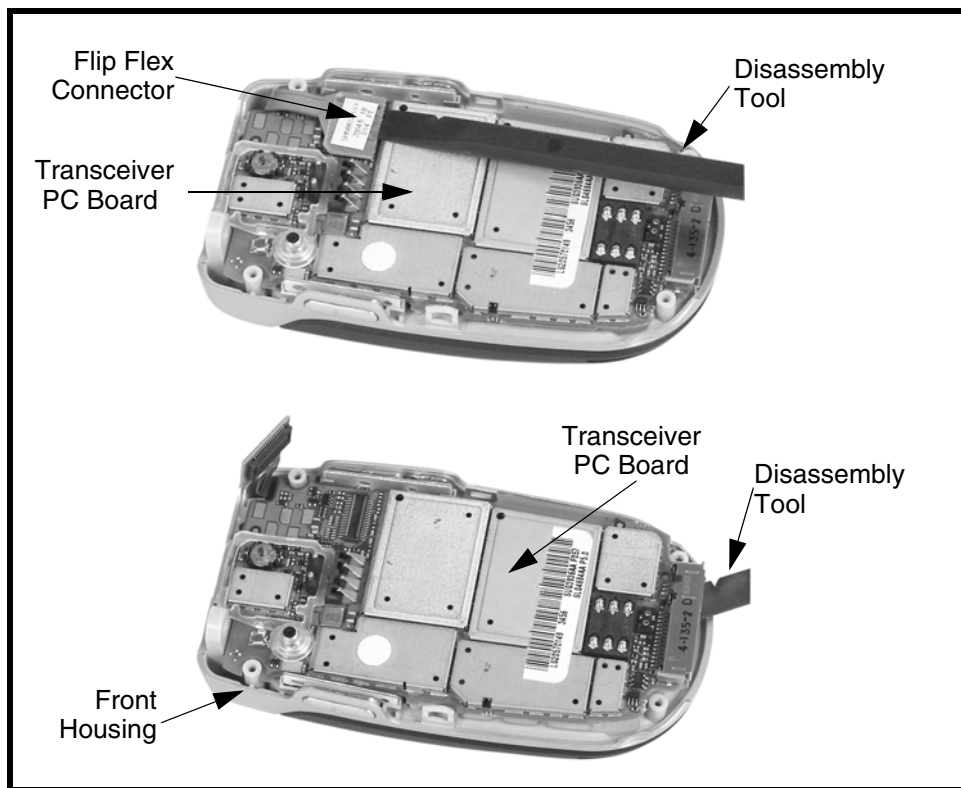

Figure 9. Removing and Replacing the Transceiver PC Board 041135/041136
2. Insert the flat end of the disassembly tool under the flip flex connector and gently pry up as shown in Figure 9.
3. Insert the flat end of the disassembly tool between the front housing and the transceiver PC board as shown in Figure 9.